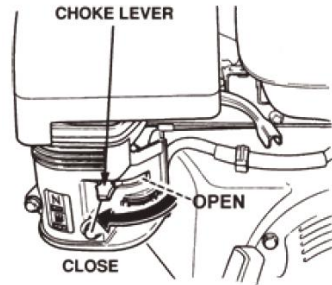

FIG.7
9.3 Place the choke lever (FIG. 7) in the "CLOSED" position if starting a cold engine.
9.7 If the engine has started, slowly return the choke lever (FIG. 7) to the OPEN position. If the engine has not started repeat steps 1 through 6.